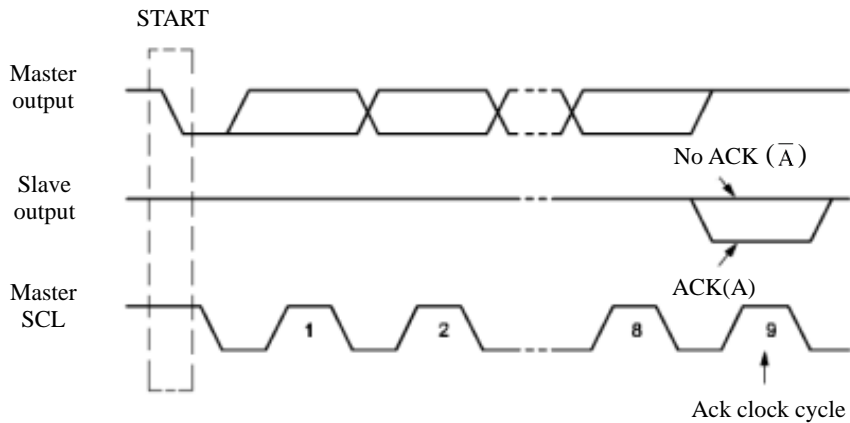

Figure 16-5 IIC bus acknowledge signal
Restart signal (repeated START): on IIC bus, master send a start signal to start-up one time communication, before first time sending stop signal, by sending a repeated start, master can change the communication mode with current slave or switch to communicate with other slaves. As figure 16-5 shown, when SCL is high, SDA transition from high to low, a repeated start signal is generated, it is a start signal essentially.
Acknowledge signal (A): after slave received 8 bit data, it will send to master a special low level. Every byte must be followed by a acknowledge bit to indicates data has been received. Acknowledge appeared at the 9th clock cycle, the master must release data line at this time, and slave pull down the SDA line to generate acknowledge signal, or slave maintain the SDA line as high to generate a no acknowledge(A \bar{A}), as Figure16-5 shown. So one byte transmission needs 9 clock cycle. If slave as receiver send no acknowledge signal to master, the slave will end the transmission, and release SDA line. Any above cases will end the data transmission. At this time master sends stop signal to release bus, or generates repeated start signal to restart a new transmission. Start signal, repeated start and stop signal are all controlled by master, acknowledge signal is generated by receiver.